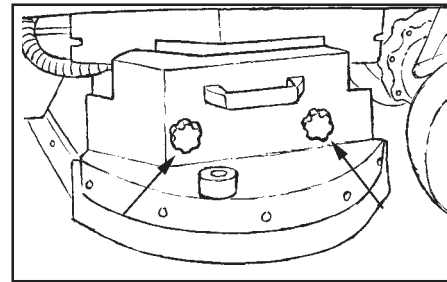

Figure 25
2. Attach the brush housing to the brush head with the two knobs (see figure 25).
1. Loosen the two clamping knobs holding the brush housing on both sides of the brush head unit (see figure 25).